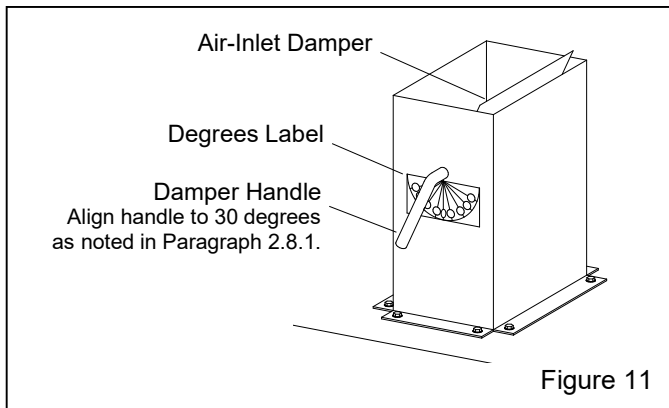

Figure 11
2.8 Set Air-Inlet Damper – Figure 11